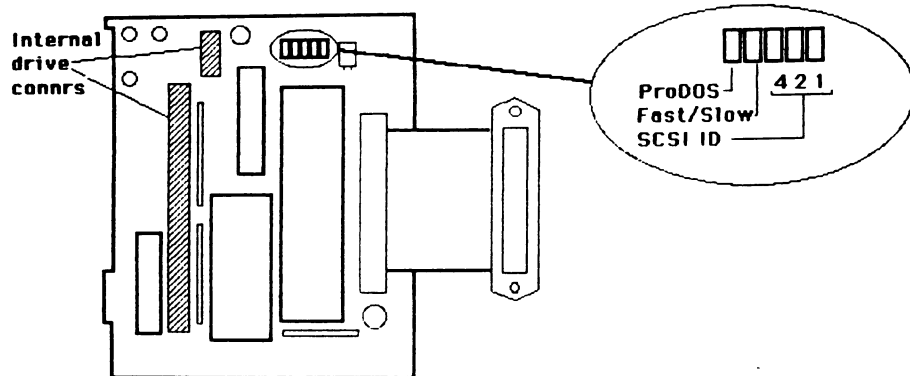

Figure 3-2: *InSyder* Front View
- 4) Check the "PRODOS" link (see figure 3-2). *InSyder* is shipped with this ON, for automatic start up in an unenhanced //e.